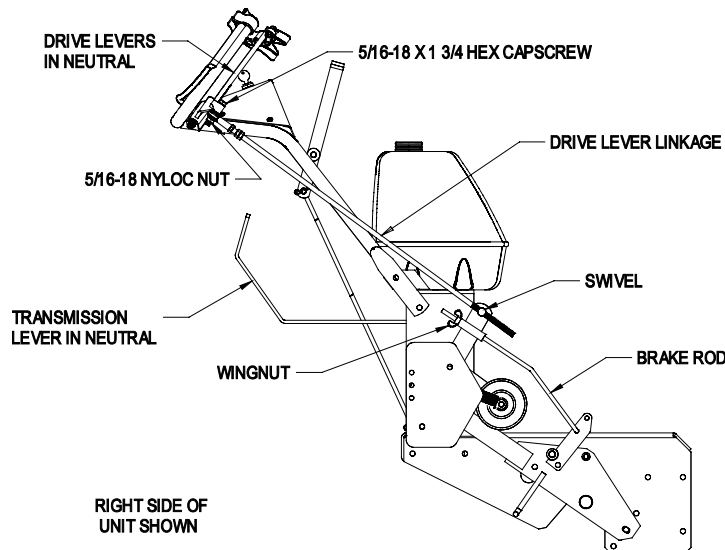

FIGURE 12
- a) Locate the drive lever linkages which have the balljoint and jam nuts installed on one end. Locate the (2) 5/16-18 x 1 3/4 Hex cap screws and (2) 5/16-18 nyloc nuts in the bolt bag. Thread drive lever linkage into the swivel located on the wheel drive idler arm. Thread in until the flat edge of the drive lever aligns with bottom of the roller notch in the neutral lock/park brake latch when the 5/16-18 x 1 3/4 hex cap screw is inserted through the hole in the drive lever and the hole in the balljoint. Secure with the 5/16-18 nyloc nut. Tighten nut. Repeat for the other side. See Figures 12 and 13.